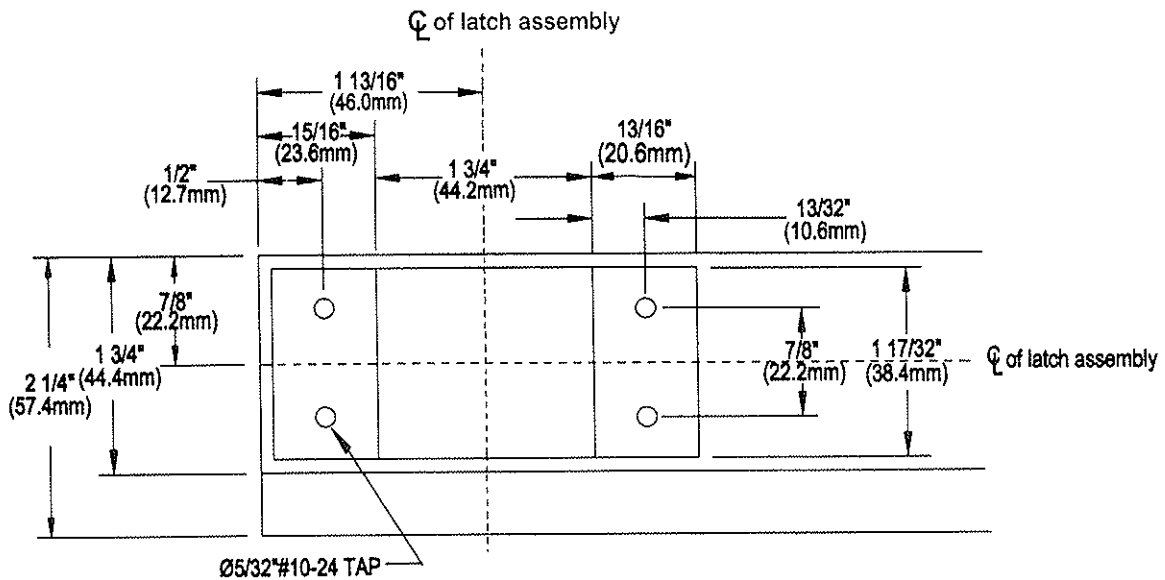

Figure 1-2
4. Cut out the top edge and bottom edge of the door, then weld two 5mm thick-mounting plates on both edges for Top Latch Assembly and Bottom Latch Assembly as per Figure 1-2.